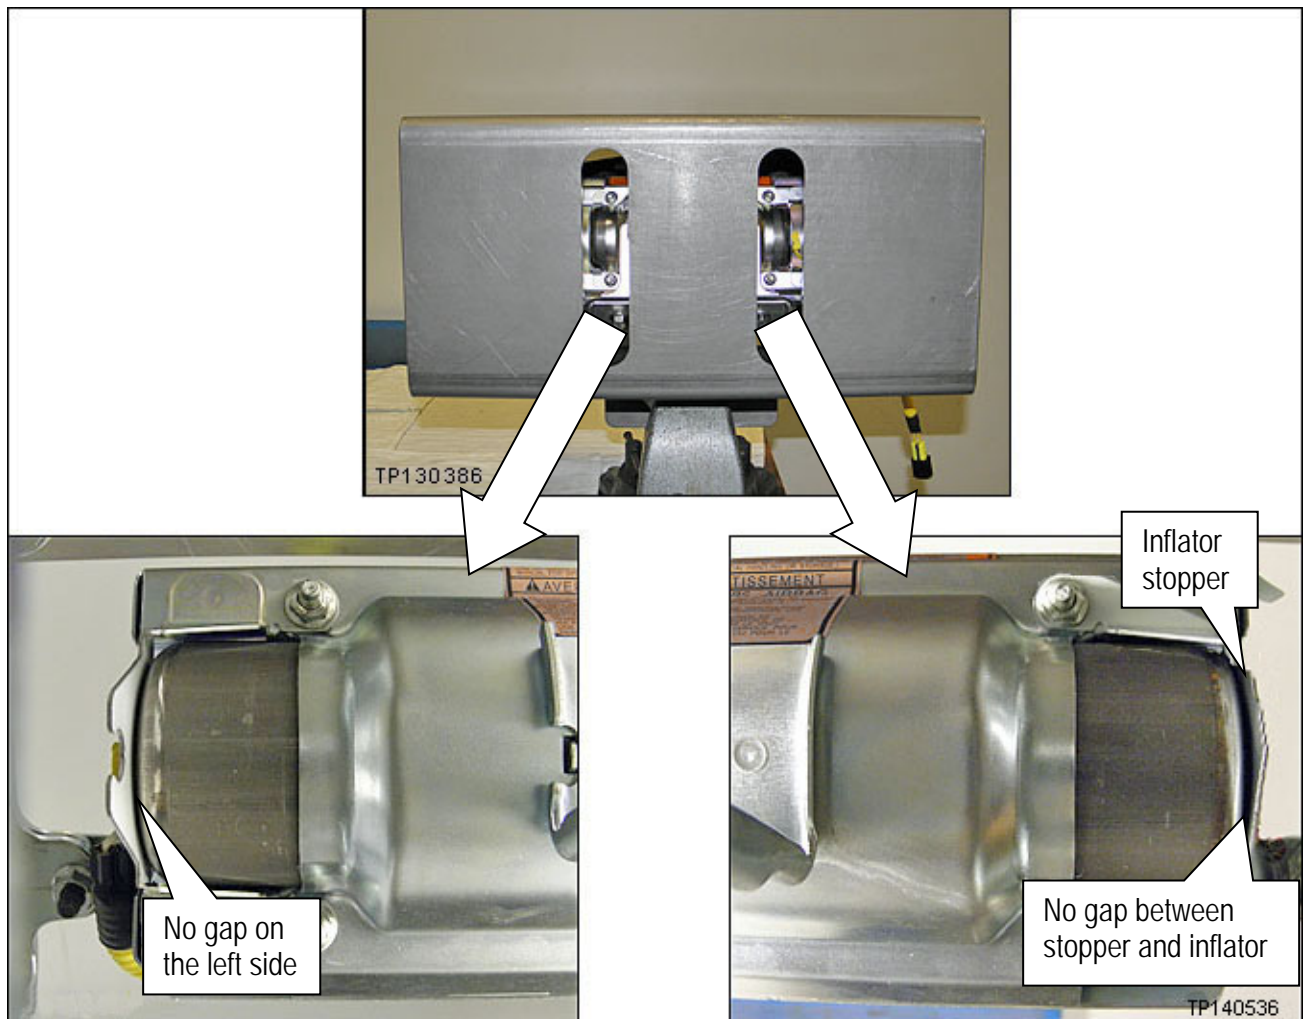

Figure Y15
18. Install the inflator stopper and 4 inflator securing nuts finger tight (see Figure Y15).
19. Make sure the inflator is pushed all the way into its housing – no gap on the left side (see Figure Y15).
20. Make sure there is no gap between the inflator stopper and the inflator on the right side (see Figure Y15).